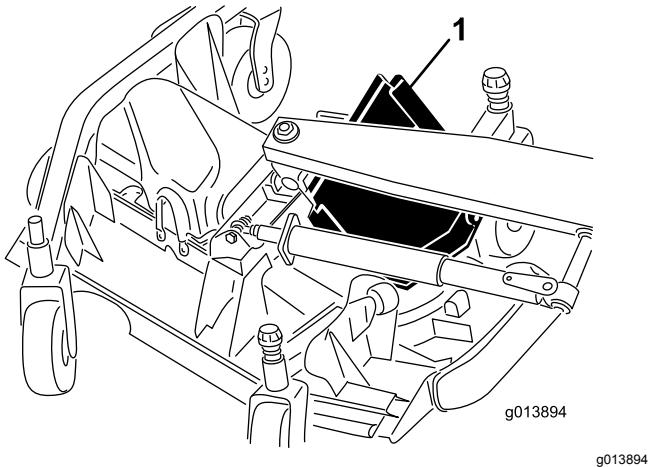

Figure 68
6. Lift the front edge and guide it between the lift arm and the roller to remove it (Figure 68).